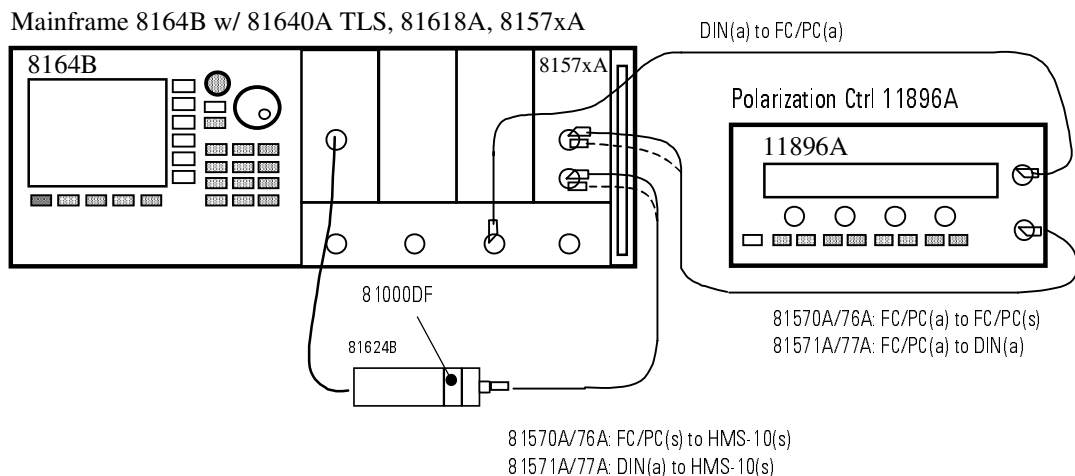

Figure 13 Attenuation Flatness Test Setup - 8157xA VOAs
- 3 Connect the equipment as shown below in Figure 13.